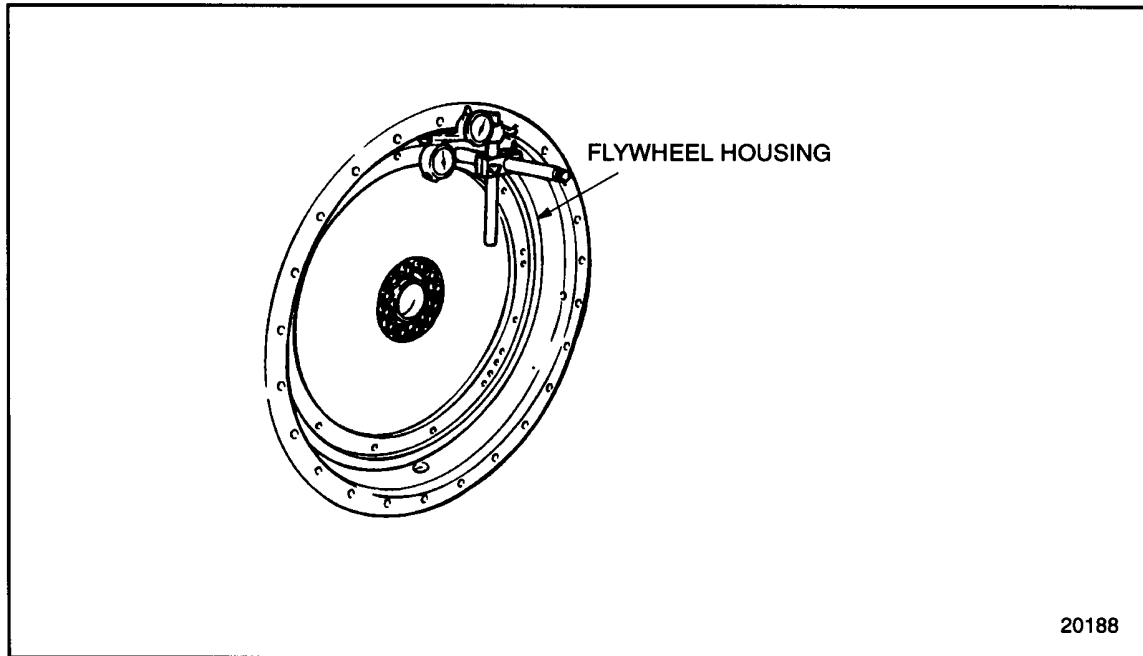

Figure 1-222 Measuring Flywheel Housing Bore Concentricity and Bolting Flange Run-out
3. Position the dial indicators straight and square with the flywheel housing bell face and inside bore of the bell. Make sure each indicator has adequate travel in each direction. See Figure 1-222.